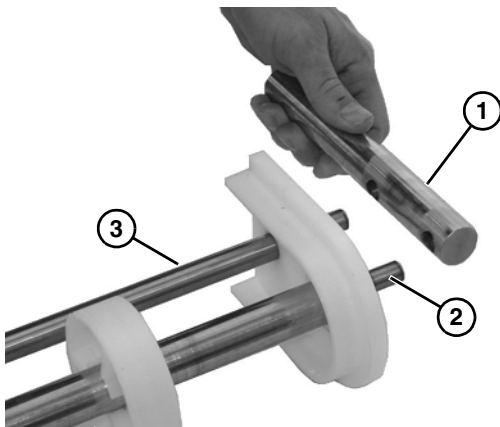

Figure 62
- Remove the bearing end rod (**Figure 62, item 1**) from idler shaft (**Figure 62, item 2**) and pinch guard shaft (**Figure 62, item 3**).